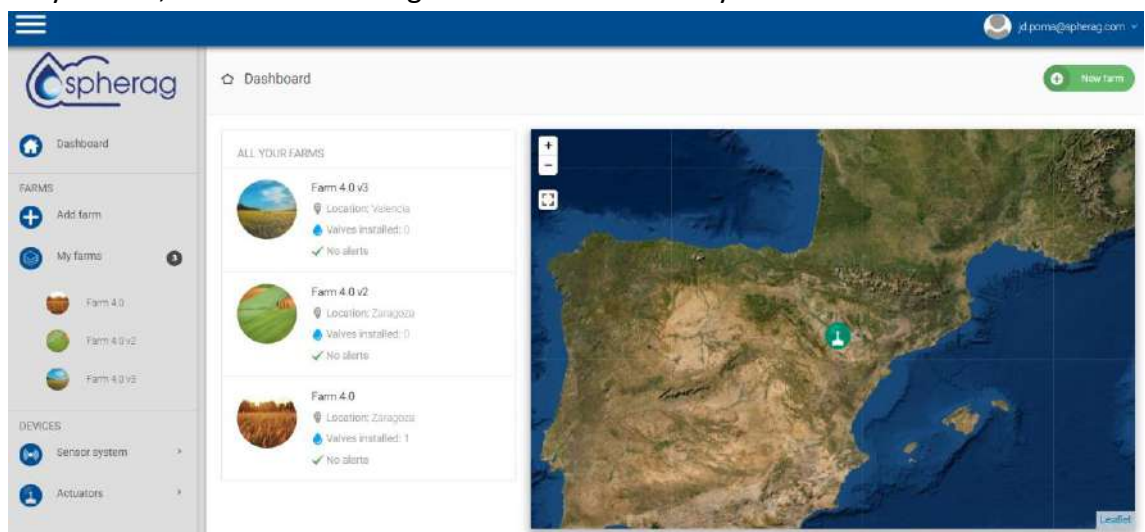

Figure 13 Display of the Control Panel
- In the left menu you can access your farms from the “Control Panel” and from “My farms”, as shown in the Figure 13. Press the farm you want to access to.